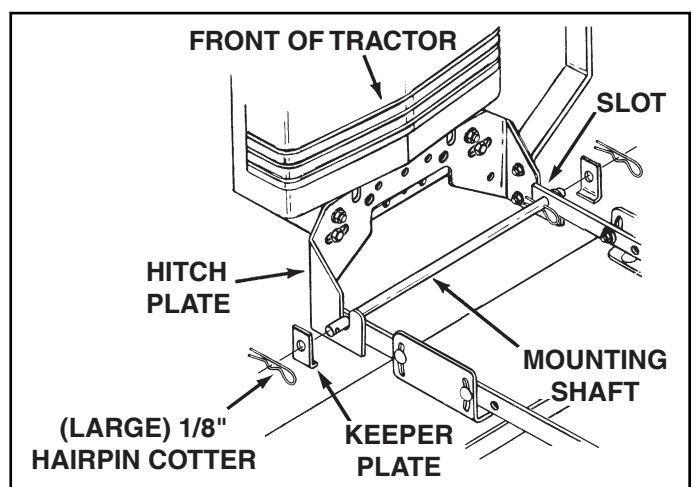

FIGURE 13
18. Attach dethatcher to hitch plate by placing mounting shaft into slots at front of hitch plate. Dethatcher mounting arms go to inside of hitch plate. Assemble keeper plates onto ends of mounting shaft and secure with (large) 1/8" hairpin cotter. See figure 13.